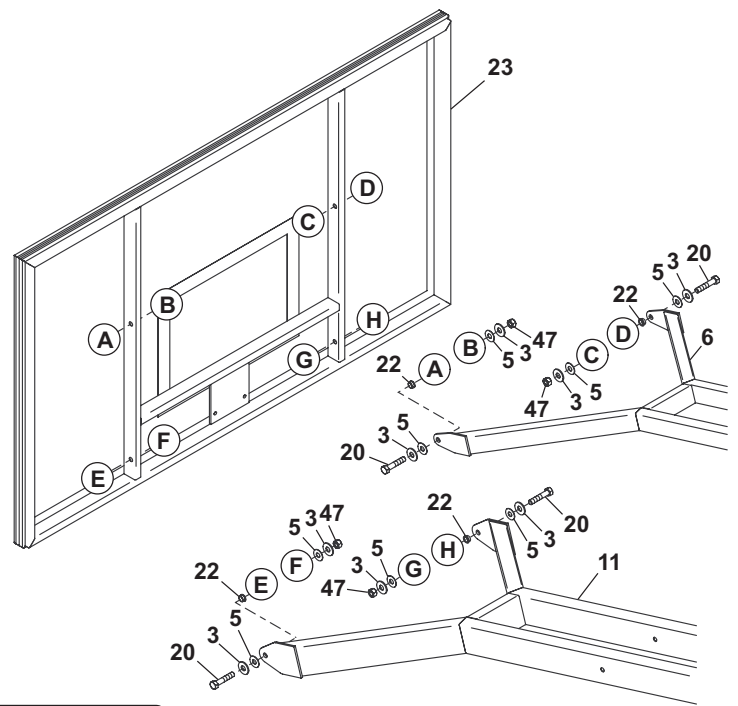

Figure 10
- With at least three capable people, raise the backboard assembly up and have the fourth attach Lower Board Arms to lower mounting holes on backboard using two bolts (#20), two step bushings (#22), (shipped already installed), four plastic washers (#5), four flat washers (#3) and two thin hex jam locknuts (#47). See Figure 10.
- Attach Upper Board Arms to upper mounting holes on backboard using two bolts (#20), two step bushings (#22) (shipped already installed), four plastic washers (#5), four flat washers (#3) and two thin hex jam locknuts (#47). See Figure 10.